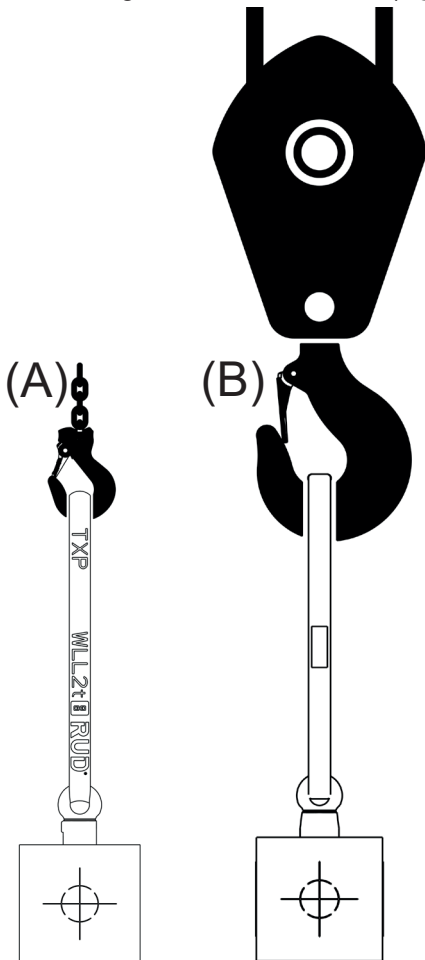

Fig. 1: Sample applications:
- Always suspend the TXP round slings directly into the lifting means or crane hook (Fig. 1).